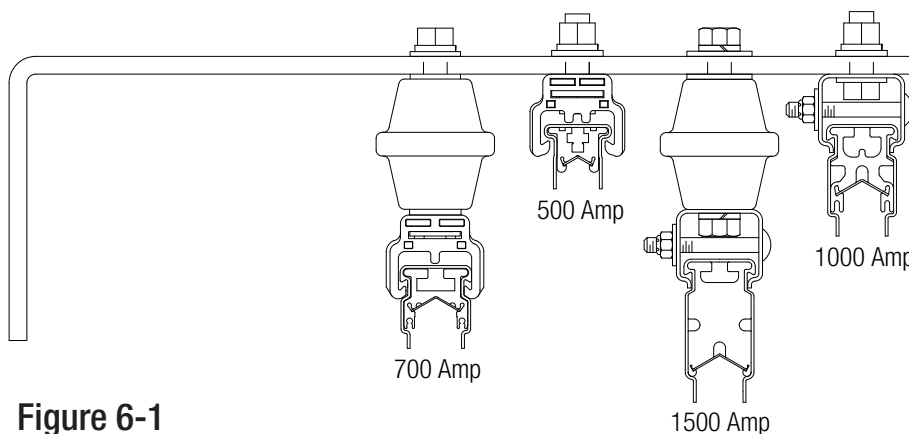

Figure 6-1
- Hanger clamp body, bolts, washers, and lock washers. A reference drawing for both cross-bolt and snap-in hanger clamps can be seen in **Figure 6-1**.